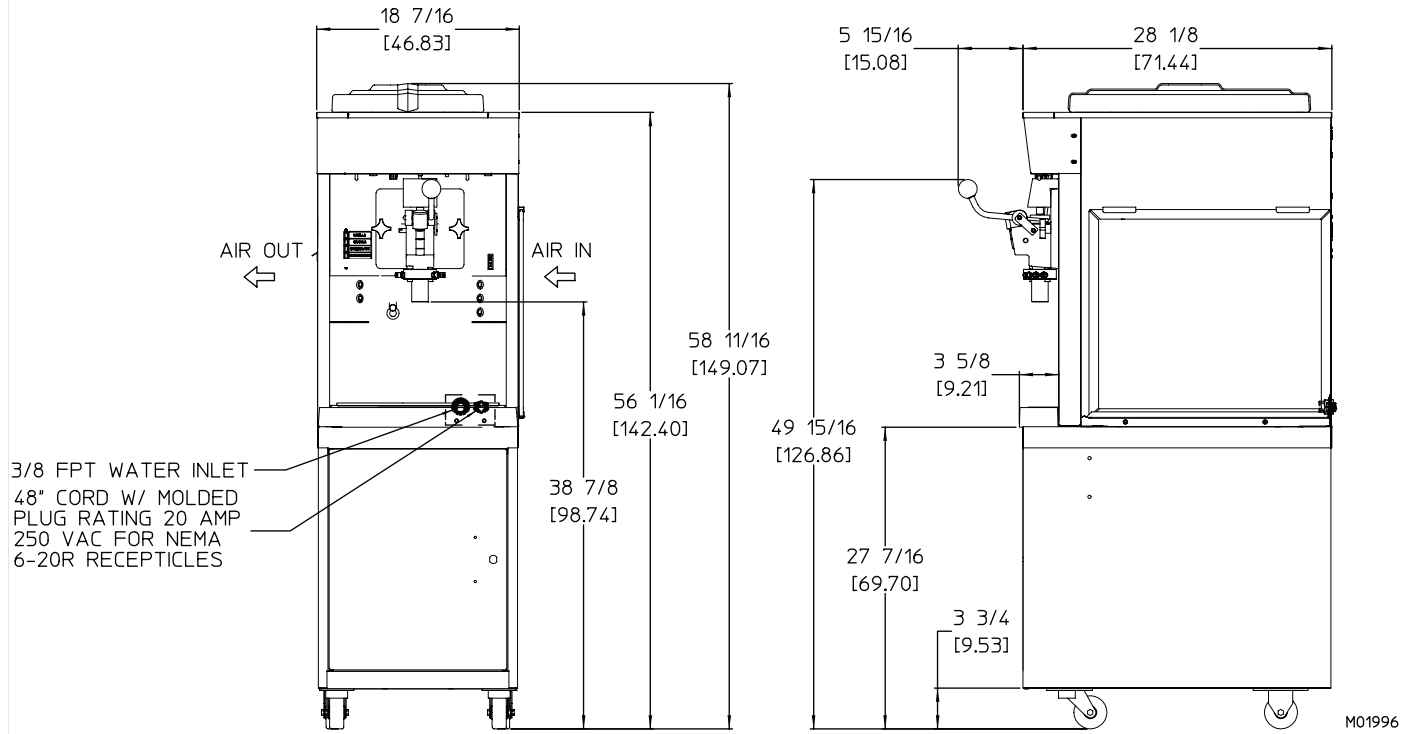

Figure 3-2 Electro Freeze Model CS704 Dimensions
1. Always verify electrical specifications on the data plate (figure 3-2) of each individual freezer. Data plate specifications will always supersede the information in this manual.